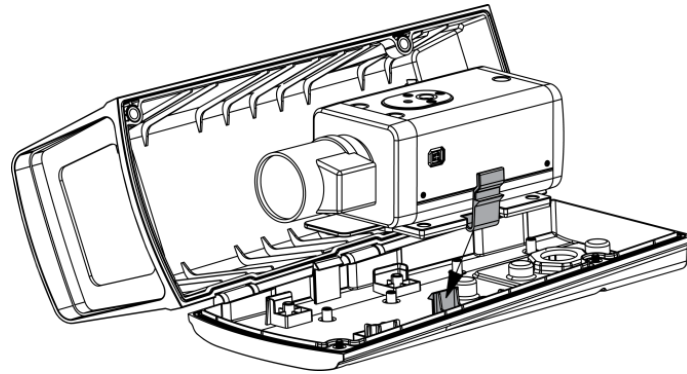

Figure 2-3
Step 3: Secure the camera bracket on the case. See Figure 2-3